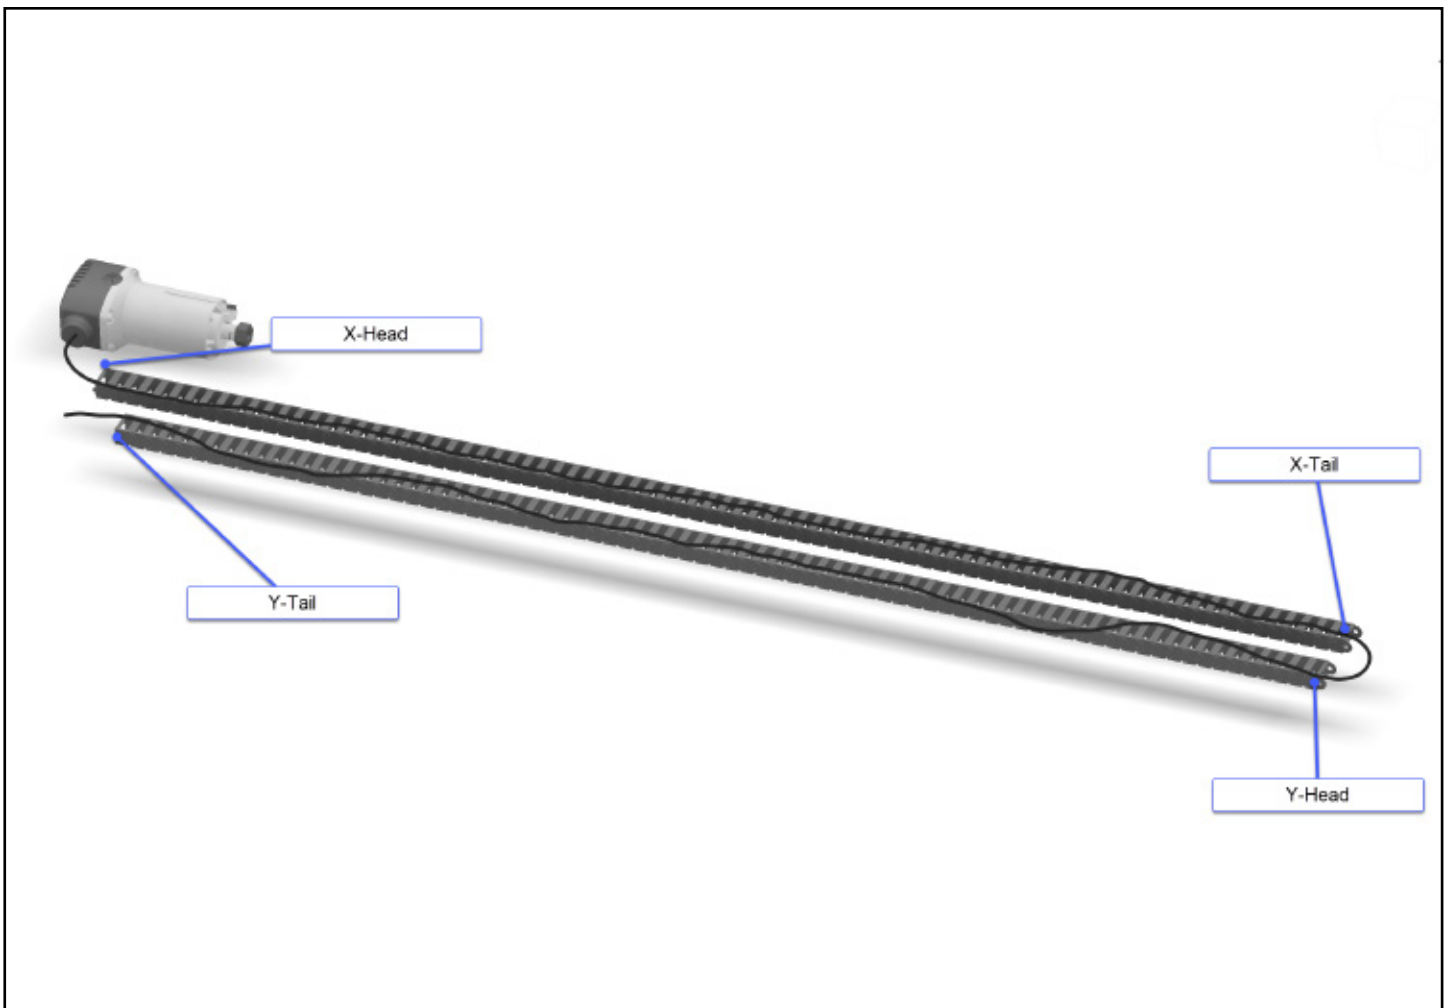

Figure 5-1
2. Lay the drag chains flat, hinge-side up, side by side on the baseframe. See **Fig. 5-1**.
2. Lay the router power cable in the X-Axis drag chain and close the first and last links to hold the cable in place. See **Fig. 5-1**.